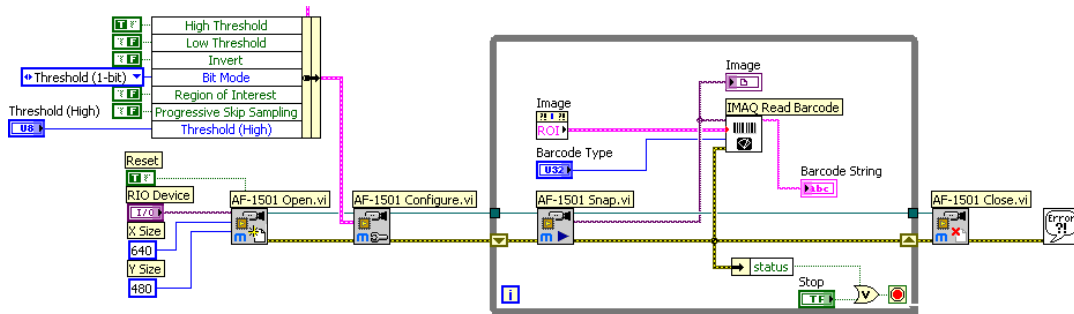

Figure 10: Barcode Reader Example Code
1. Add the basic AF-1501 functions from the **User Libraries » MoviMED » AF-1501** palette. Create the controls and indicators shown in Figure 10.
**!** *Note: Settings not shown in Figure 10 will not affect this example and can be set to their default values.*